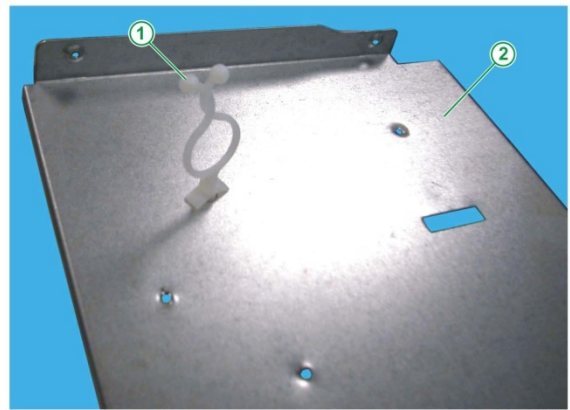

Fig. 8
11. Retrieve the plastic cable fastener for the cabling from the sheet metal controls protection (see Fig. 8 and 9).